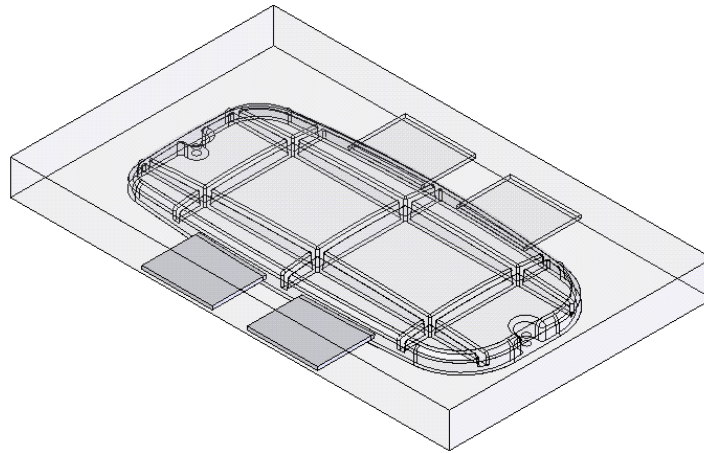

Figure 17-62 Base feature of the Insert1
- Using the top-down approach, create the inserts, refer to Figures 17-62 through 17-64.
7. Extrude the sketch up to the inner front curved face of the Cover. The assembly after creating the base feature of the Insert1 is shown in Figure 17-62.